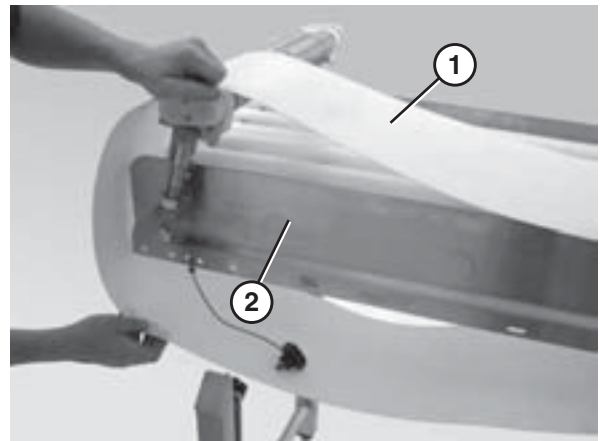

Figure 48
- Slide the old belt (Figure 48, item 1) off the conveyor frame (Figure 48, item 2).